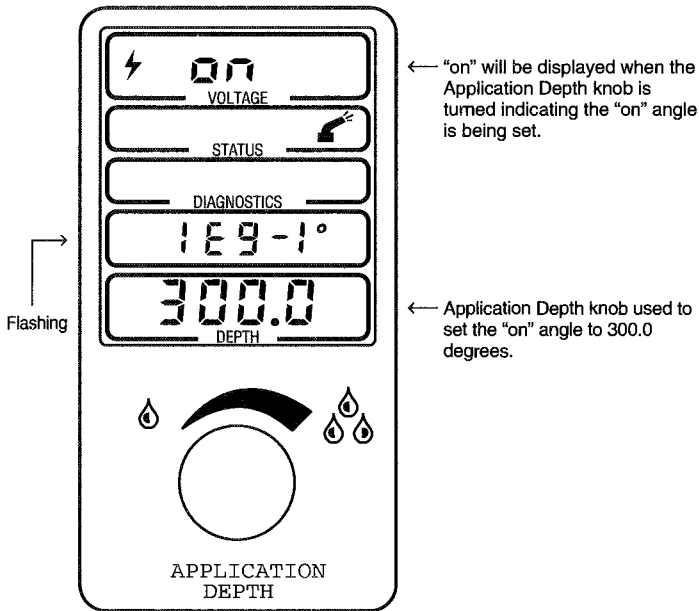

Figure 2.7
1. Turn the knob to select the value of the first "on" angle (300.0 degrees in this example). Notice that the area of the screen in figure 2.7 which shows the value of the angle setting will be blank until the operator turns the knob. It will then display values starting from zero degrees and is adjusted from 0.0 degrees by turning the knob to either increase or decrease the angle value. "on" is also displayed in the top screen to remind the operator that an "on" angle is being set. "on" will change to "OFF" as soon as the SELECT button is pressed to set the "on" angle. Notice that the on and off angles can be set to the nearest tenth of a degree.